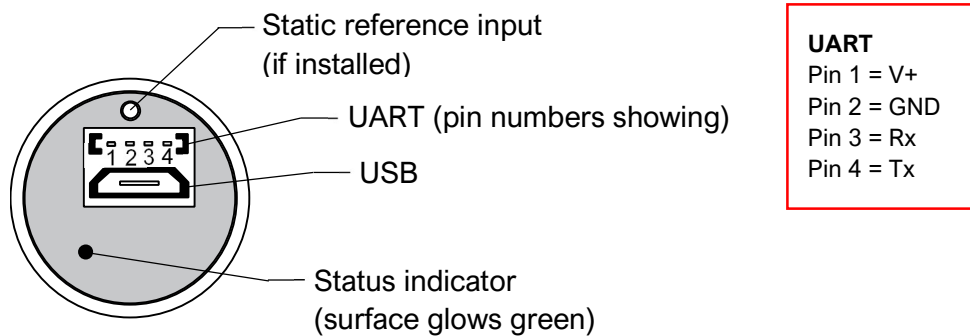

Figure 2: connector interface and pin assignment
Comms port: This is the UART serial communications connection. There are four pins: V+ (1), GND (2), Rx (3) and Tx (4), where pin 1 is on the left when the probe is oriented such that the serial port is above the micro-USB port (see figure 2). Note that pin 1 on the matching plug is marked with a small recessed triangle.